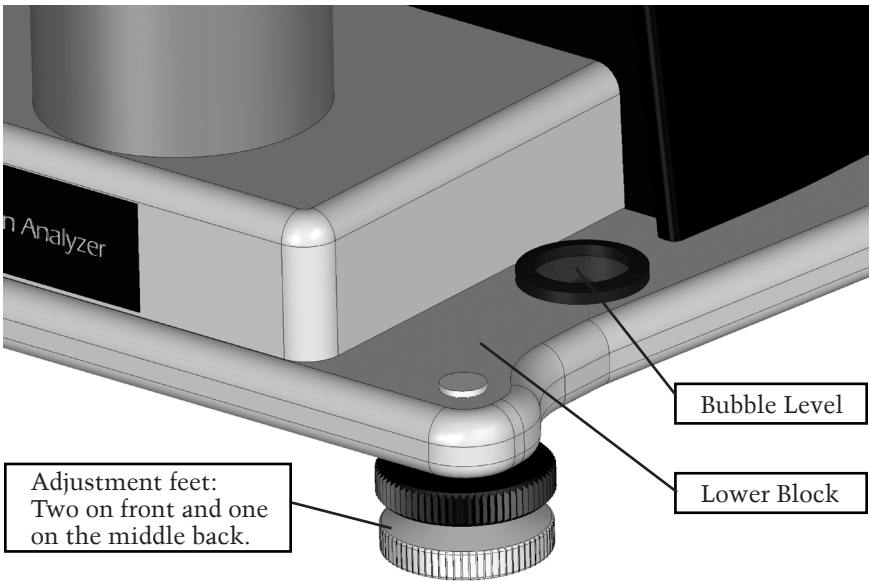

Figure 1: Adjustment and bubble level.
- Place the AquaLab VSA on a flat surface. Use the bubble level(Figure 1: Adjustment and bubble level) and use the adjustable feet to level the instrument. The small rubber feet on the back of the lower plate are to prevent tip-over and do not need to be touching the table.